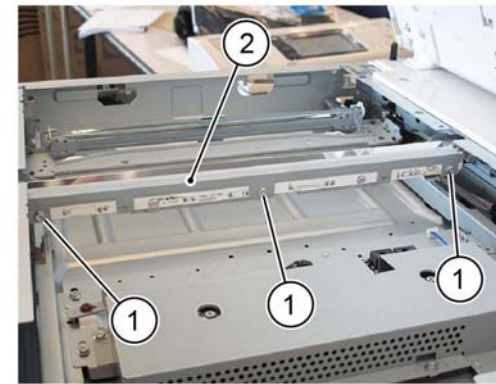

Figure 2 LED bracket removal
5. Remove the LED bracket, Figure 2:
- a. Remove three screws (1).
- b. Remove the LED bracket (2).